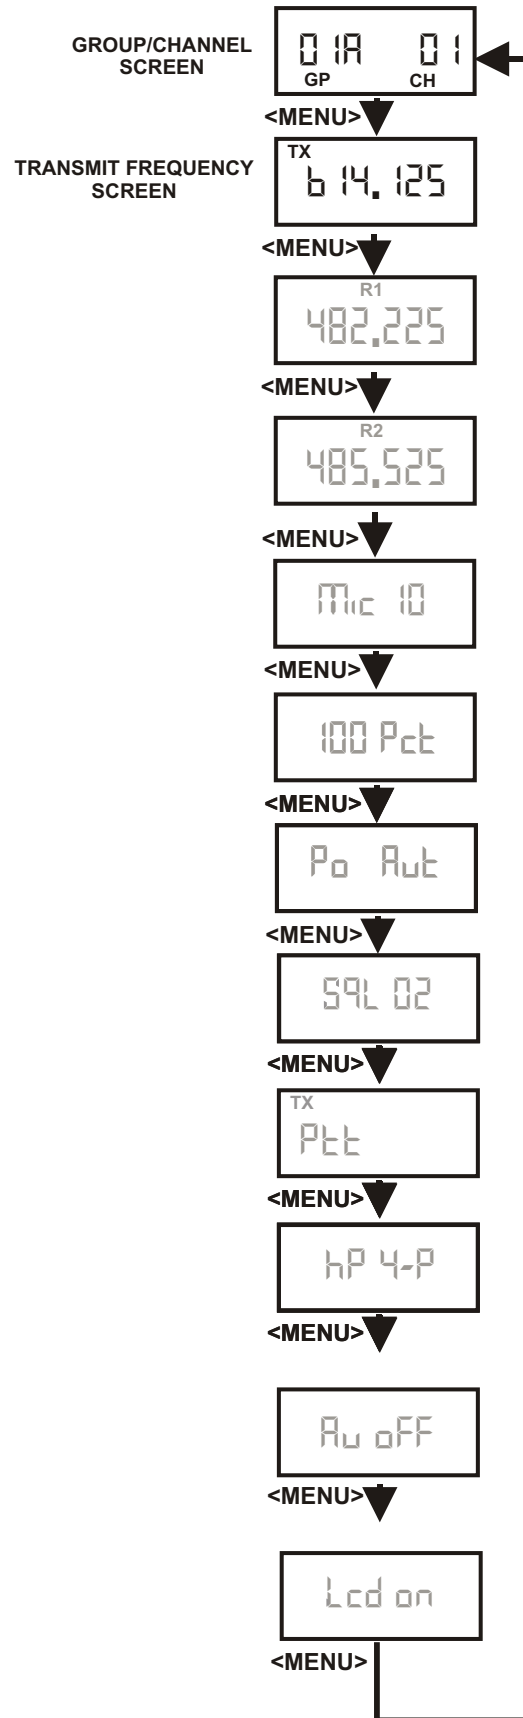

Figure 7-9
1. Set the unit to the desired user defined group and channels; see Groups and Channels Instructions. The menu structure at the right (Figure 7-9) indicates how to get to the transmit frequency screen.